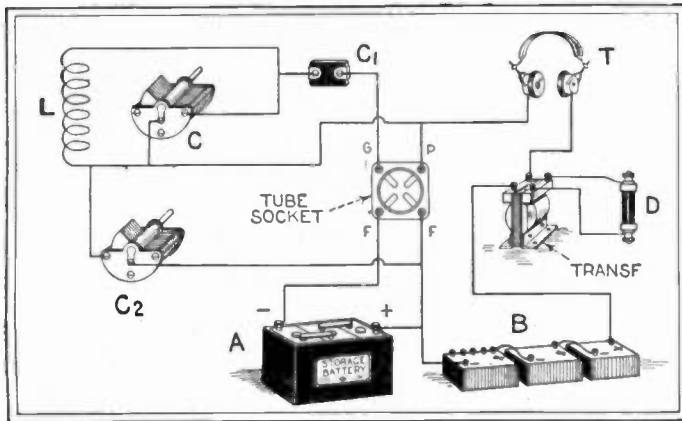

Fig. 1. One of the circuits used by the Bureau of Standards in the measurement of currents too small to actuate the ordinary measuring apparatus.
A. 1. Although it is not a matter of general knowledge, laboratory tests have shown that the vacuum tube is a valuable instrument of precision for use in measuring currents almost infinitesimally small. Fig. 1 on this page shows one of the circuits developed by the Bureau of Standards for this purpose. The coil, L, is inductively coupled to the circuit which carries the current to be measured, while a sensitive galvanometer is connected in series with detector D. A local current is generated by the oscillation of the vacuum tube circuit, the frequency of which is regulated by the tuning condenser C. A note is produced in the telephone, T, by the beats between the impressed and the local currents. The condenser C4 must be adjusted for maximum deflection of the galvanometer.